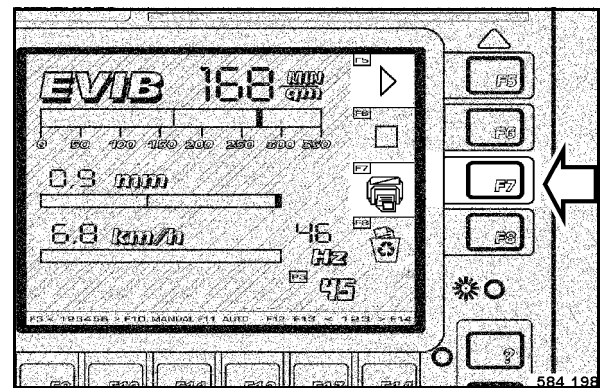

Fig. 101
- At the end of the measurement press push button F7 "PRINT" (Fig. 101).